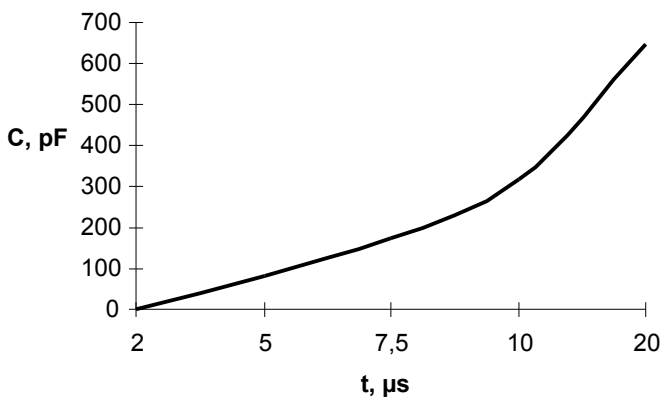

Figure 9 – Turn-on delay time of saturation voltage versus trimming capacitance  $C_b$  nominal
| delay time  |                      |             |     |      |      | ref. to Figure 9                  |
**Capacitor Cb1, Cb2** – timing turn-off delay capacitor of corresponding controlled transistor at current overload. Protection operation delay is necessary to avoid the maloperation of short-time inductive kicks and of turn-on transient process. Thereby the delay duration will be equal to “rerun pulse” duration in case of emergency. To increase protection operation delay you are recommended to install the capacitors with nominal shown at Figure 9. Initially the capacitors of 100 pF capacitance are installed that corresponds to delay time 5 $\mu$ s (typ.).
- set up protection operate delay time by capacitor Cb in compliance with Figure 9;